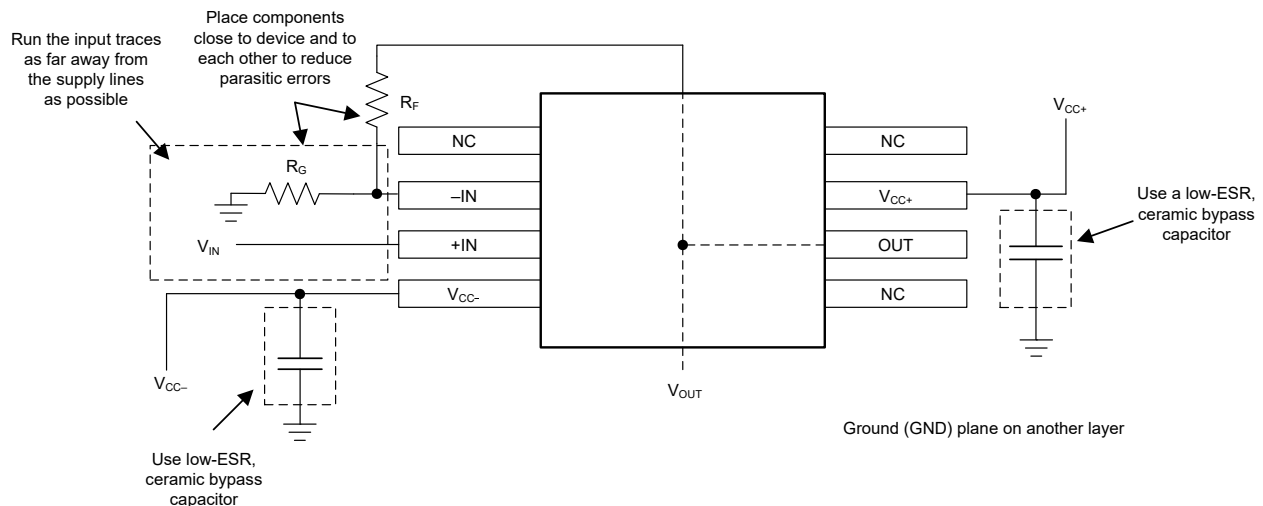

Figure 6-4. Operational Amplifier Board Layout for Noninverting Configuration
4. Place the external components as close to the device as possible. Figure 6-4 shows how to keep  $R_F$  and  $R_G$  close to the inverting input to minimize parasitic capacitance.